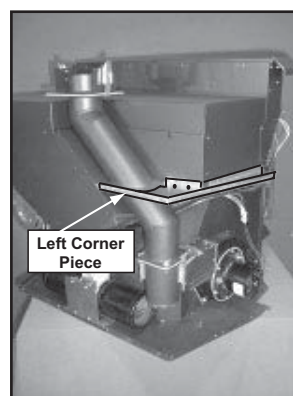

Figure 20.4
4. Install the left shroud panel corner at 3 points, 2 screws into back of hopper and 1 down into the filler piece). **Figure 20.4**